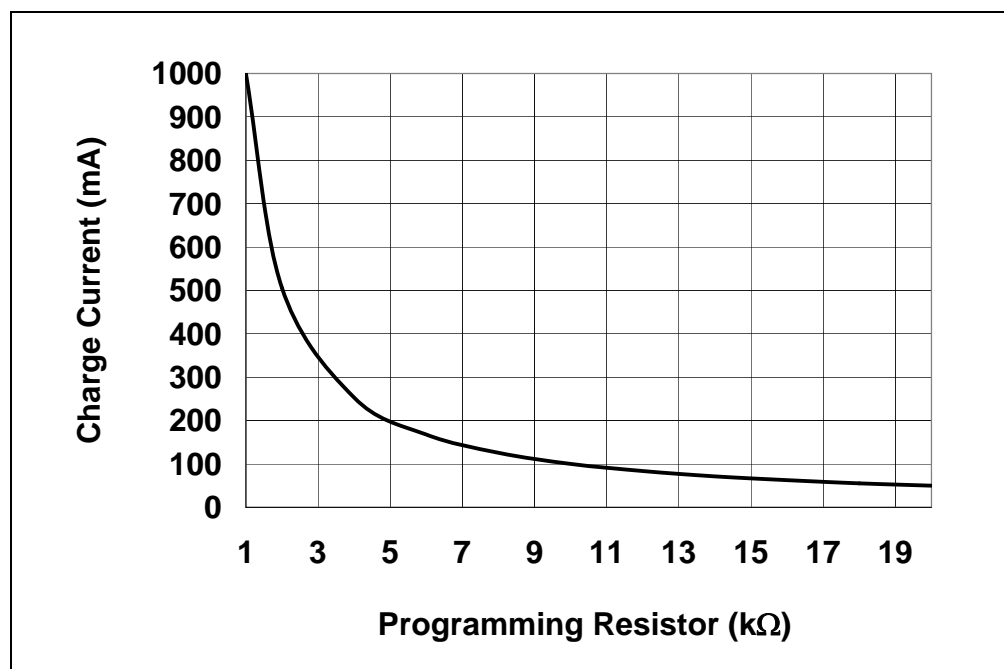

FIGURE 2-1: Charge Current (I_{OUT}) vs. Programming Resistor (R_{PROG}).
9. Fast Charge Current can be programmed with various resistors that based on the Figure 2-1.